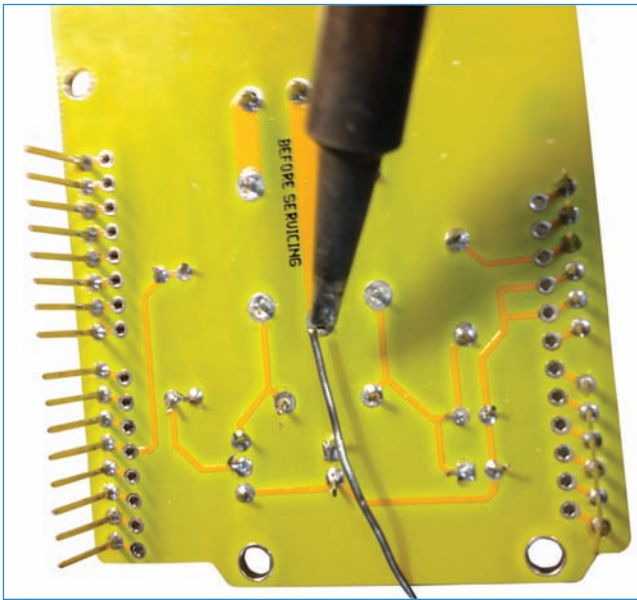

FIGURE 3.17 Heat up the lead and pad, and then apply a length of solder.
6. Hold a piece of solder with your other hand and touch the end to the pad and lead while the iron is still touching them (see Figure 3.17). The solder should melt immediately and flow into the hole, sticking everything together. Remove the iron and you're finished! Cooling takes barely a second, so you don't have to wait before moving on to the next step.